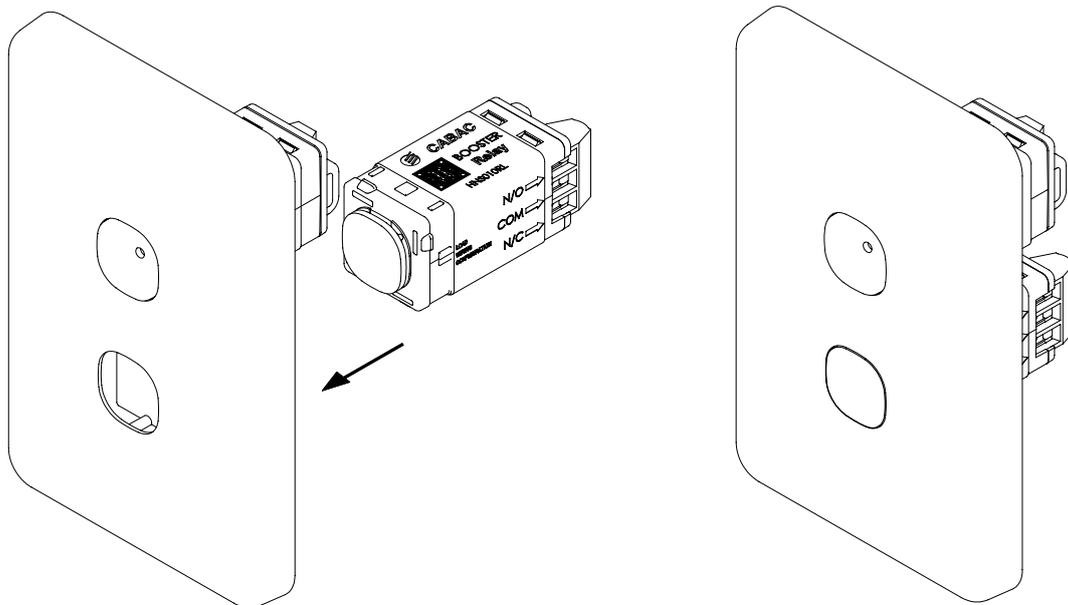

Figure 4: Wall plate installation.
- Mount the HNS010RL (with front cover attached) to the chosen dual wall plate, alongside the controlling external switching device (e.g. HNS440TM, HNS450TM or HNS460SW), as shown in Figure 4.